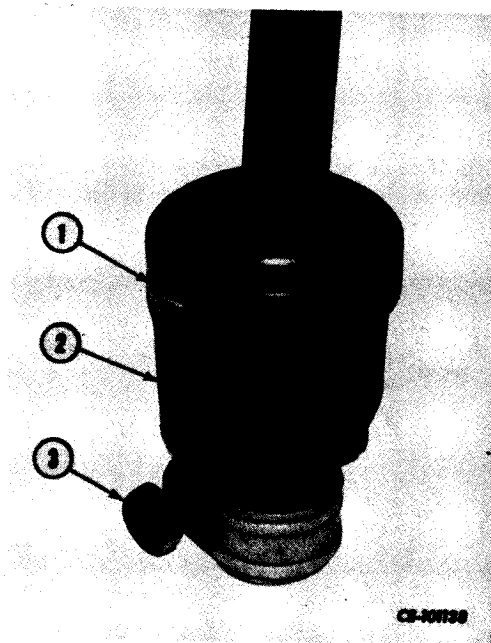
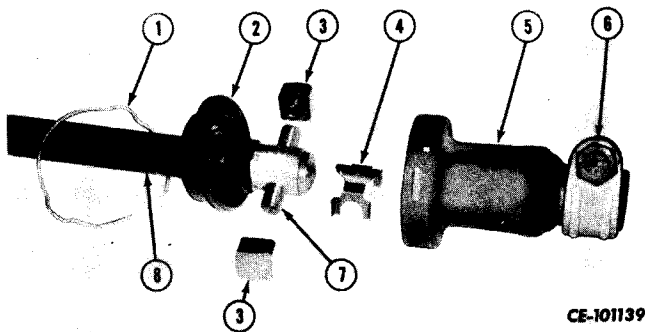
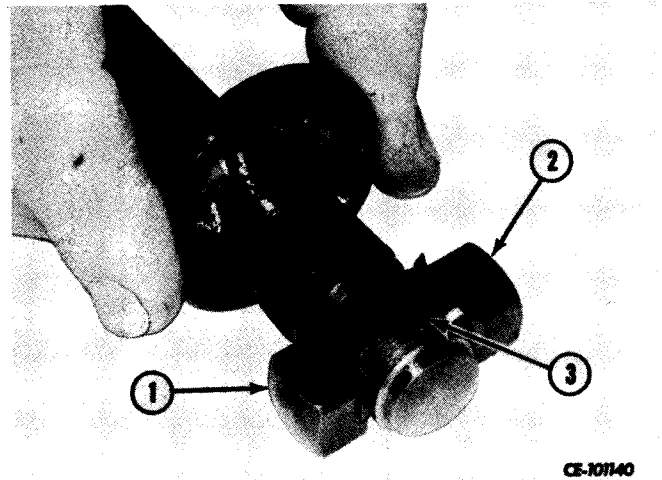

Figure 8-13
Figure 8-14
Figure 8-15
Loosen clamp bolts (3, Fig. 8-13) on either end of steering shaft. Telescoping action of couplings (2) should allow removal of shaft and coupling assembly. In some cases it may be necessary to remove steering gear mounting bolts to provide sufficient clearance for shaft removal.
Using a screwdriver, carefully pry out retaining ring (1, Fig. 8-13). Cover balance of ring with a rag during removal to prevent it from springing out. Carefully separate seal (2, Fig. 8-14) and coupling (5). Seal need not be removed from shaft unless replacement is necessary.
Pull the shaft (8, Fig. 8-14) and bearing (3) assembly from the coupling (5). Separate the shaft, bearings and spring (4). The dowel pin (7) need not be removed unless replacement is necessary.
Apply a light coat of lubricant to dowel pin (7, Fig. 8-14). Assemble bearings (1, 2, Fig. 8-15) on dowel pin and retain with spring (3).
Fill coupling (5, Fig. 8-14) with correct amount of recommended lubricant. Refer to Operator's Manual.
Carefully install shaft and bearing assembly in coupling. Position seal (2, Fig. 8-14) in coupling recess and secure with retaining ring (1, Fig. 8-13). Be sure nubs on retaining ring are fully engaged in coupling slots.
Position steering shaft on worm shaft on steering wheel shaft according to marks made prior to removal. Be sure couplings fully engage splines on their mating shafts. Tighten clamp bolts (3, Fig. 8-13) securely.
Loosen upper clamp (6, Fig. 8-14) that secures steering shaft assembly to steering column assembly.